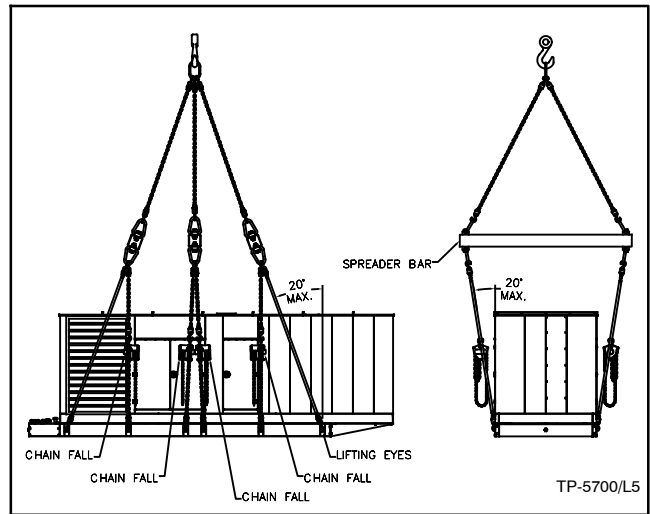

Figure 2-15 Twelve Eyes, Three Spreader Bars, and Eight Chain Falls Lifting Method
Apply three spreader bars and eight chain falls (Figure 2-15) for twelve eye lifting.
- Install a pair of outer slings up to the maximum angle as shown in Figure 2-15.